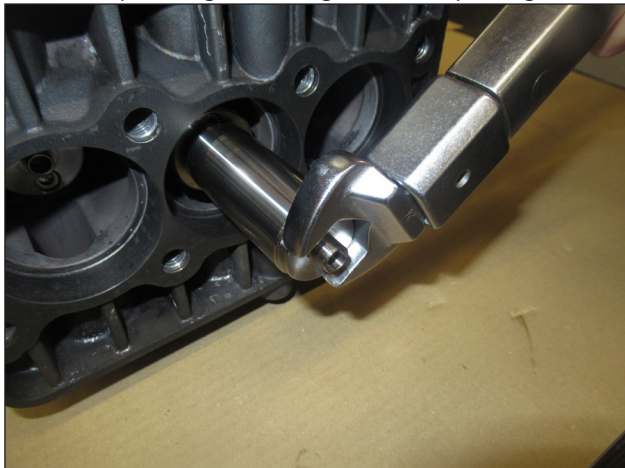

Fig. 32
A) Fit the spacer (Fig. 32) and tighten on the piston guide rod.